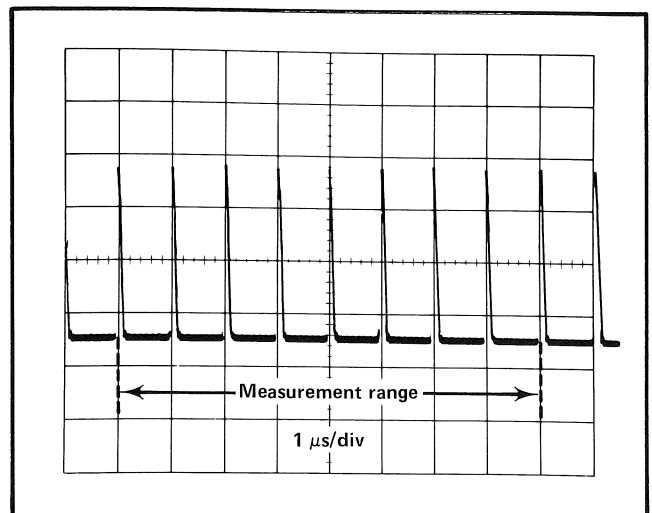

Fig. 6-5. Waveform showing correct R532 control adjustment (Step 4).
f. Adjust R532 to obtain 1 pulse per CRT graticule vertical line using graticule lines 1 through 9 (see Fig. 6-5). Adjust the TIME-DISTANCE control as necessary to position the markers on the graticule lines. The SAMPLING RATE control may be adjusted if necessary to stabilize the waveform.